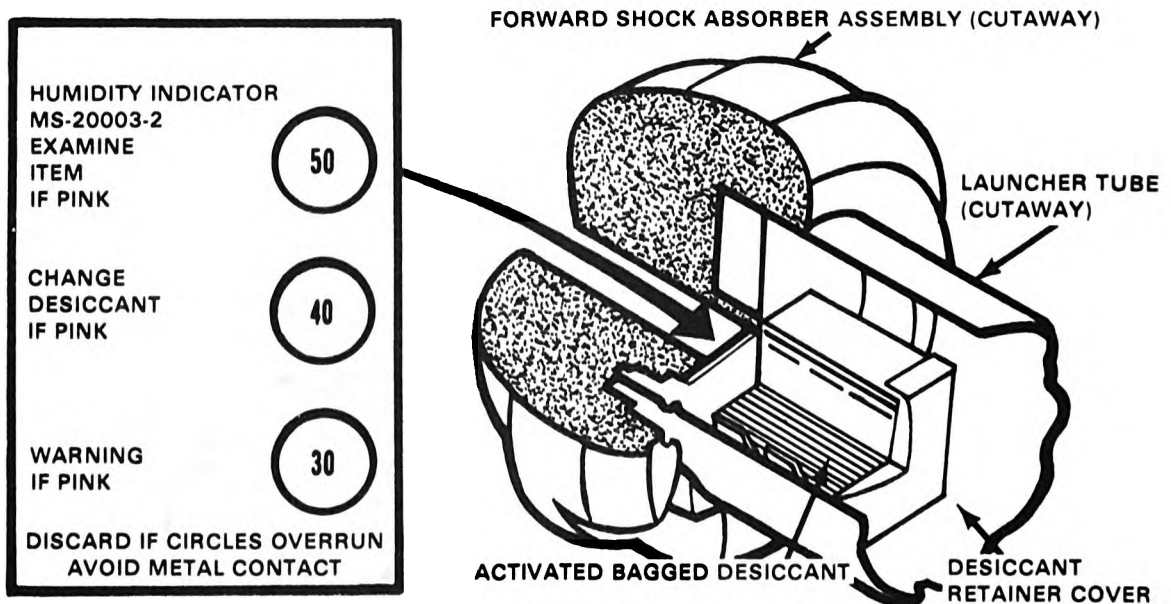

Figure 2.
l. Check the humidity indicator card (figure 2) through the viewport in the face of the forward shock absorber. The indicator's circles should be blue. **(NOTE: IF NOT BLUE, TURN IN IF SITUATION PERMITS.)**